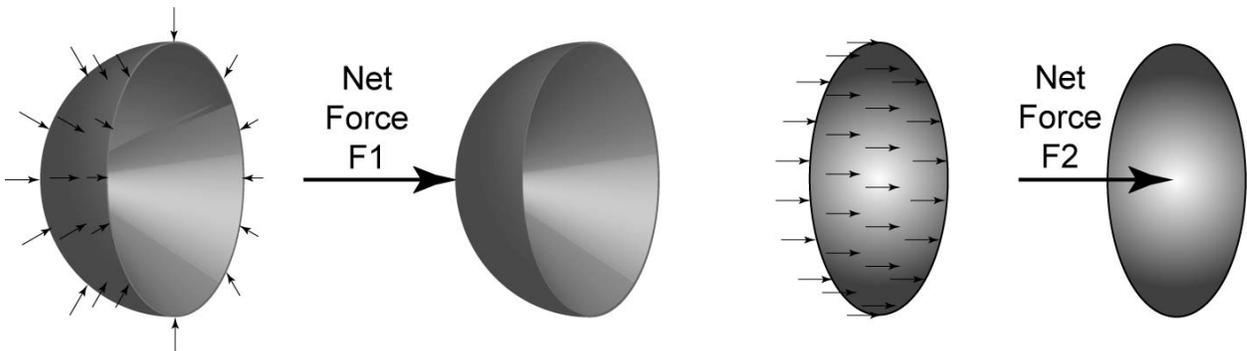

Figure 2: Net Force F1 Acting on a Hemisphere Equals the Net Force F2 Acting on a Circle (With the Same Diameter)
- Pressure force acting on a sphere: If you sum all of the pressure forces pushing against a hemisphere, the net force is equal in magnitude and direction to the net force pressing on a circular area with the same diameter. See Figure 2.